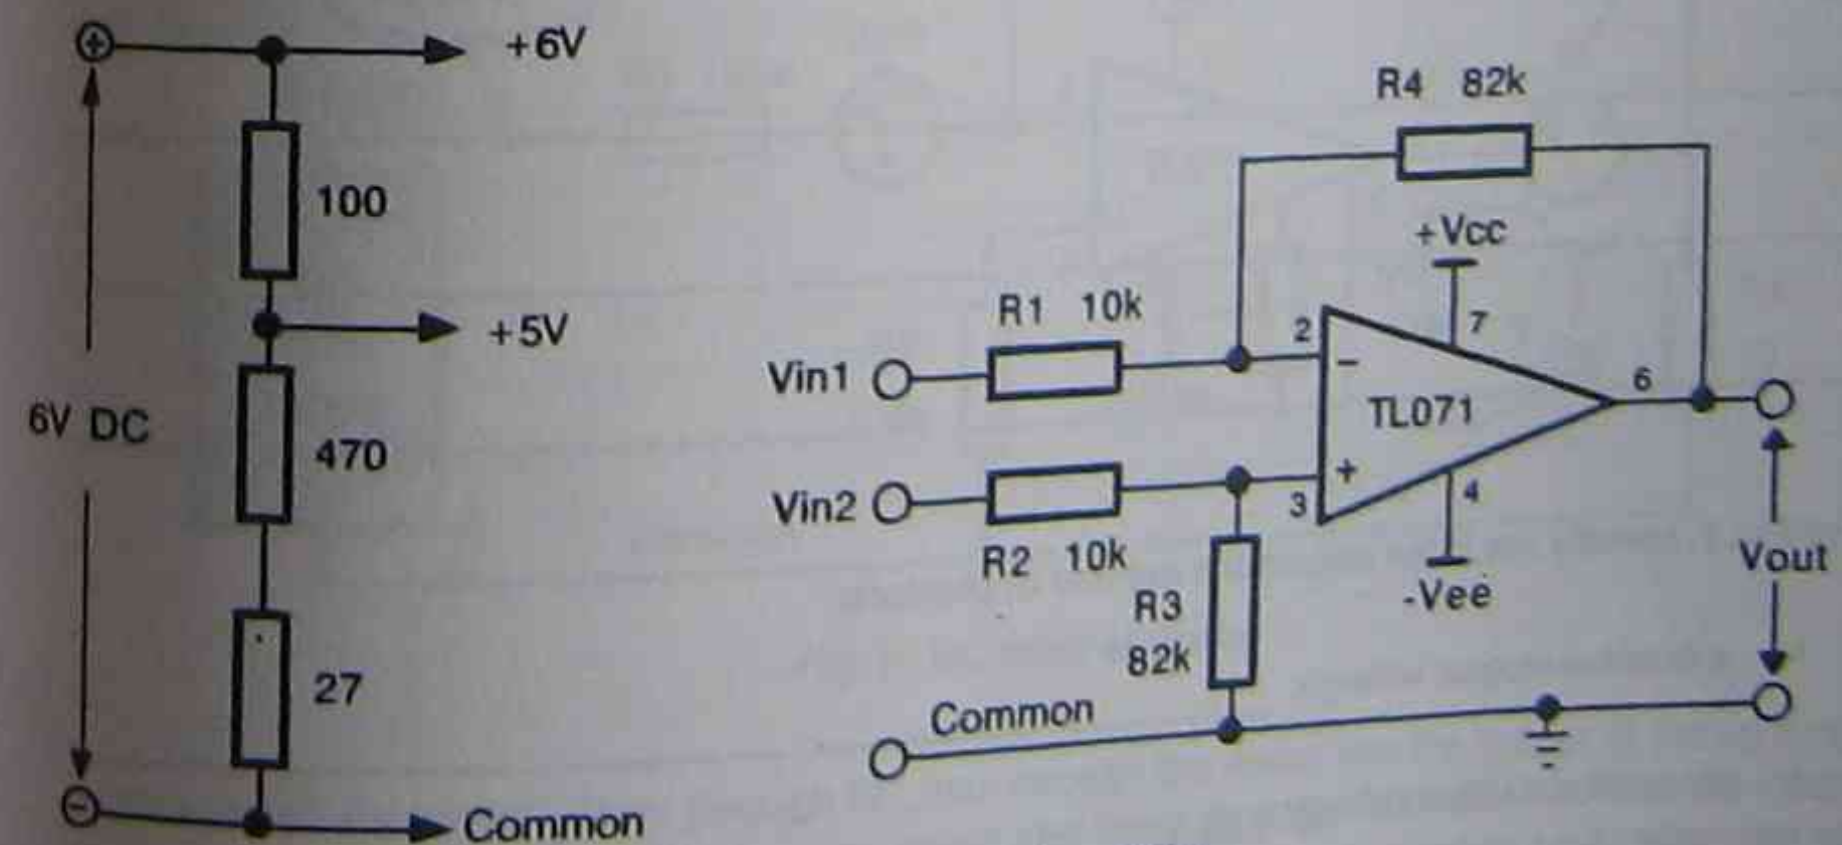

Fig. 2: Differential amplifier
- Calculate the gain of the circuit of Fig. 2 and determine the output voltage if $V_{in1} = +6V$ and $V_{in2} = +5V$.
- Construct the circuit of Fig.2 including the voltage divider shown. This network is used to derive +5V and is connected to a DC power supply adjusted to 6V.
- (d) For Fig.2, identify the input conditions needed to produce: